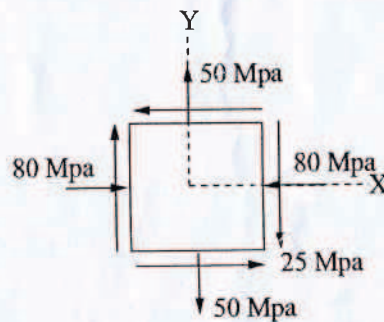

Fig. 5
3. (a) The 2-D stress system is shown in Fig. 5, find the stress components when it is inclined at  $30^\circ$  clockwise. Draw the Mohr's circle showing the stress co-ordinates. What is the value of radius of Mohr's circle? (Marks: 4)